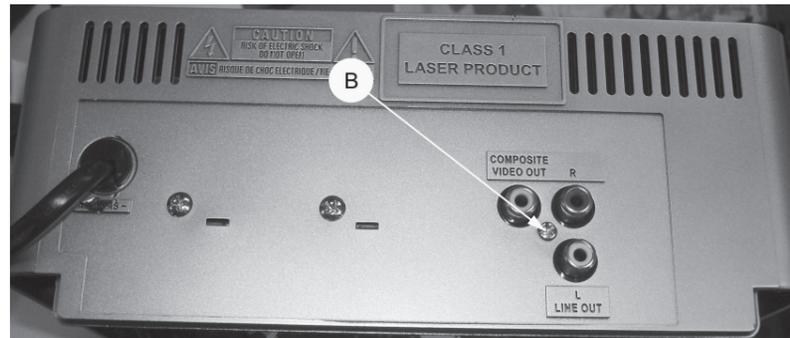

figure 2
- 1) Loosen 1 screw "B" at the back panel as shown in figure 2.